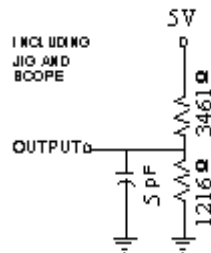

FIGURE 1B
6. Transition is measured $\pm 500\text{mV}$ from steady state with $C_L = 5\text{pF}$ as shown in Figure 1B. The parameter is guaranteed but not 100% tested.
10. Transition is measured $\pm 500mV$ from steady state with $CL = 5pF$ as shown in Figure 1B. The parameter is guaranteed but not 100% tested.